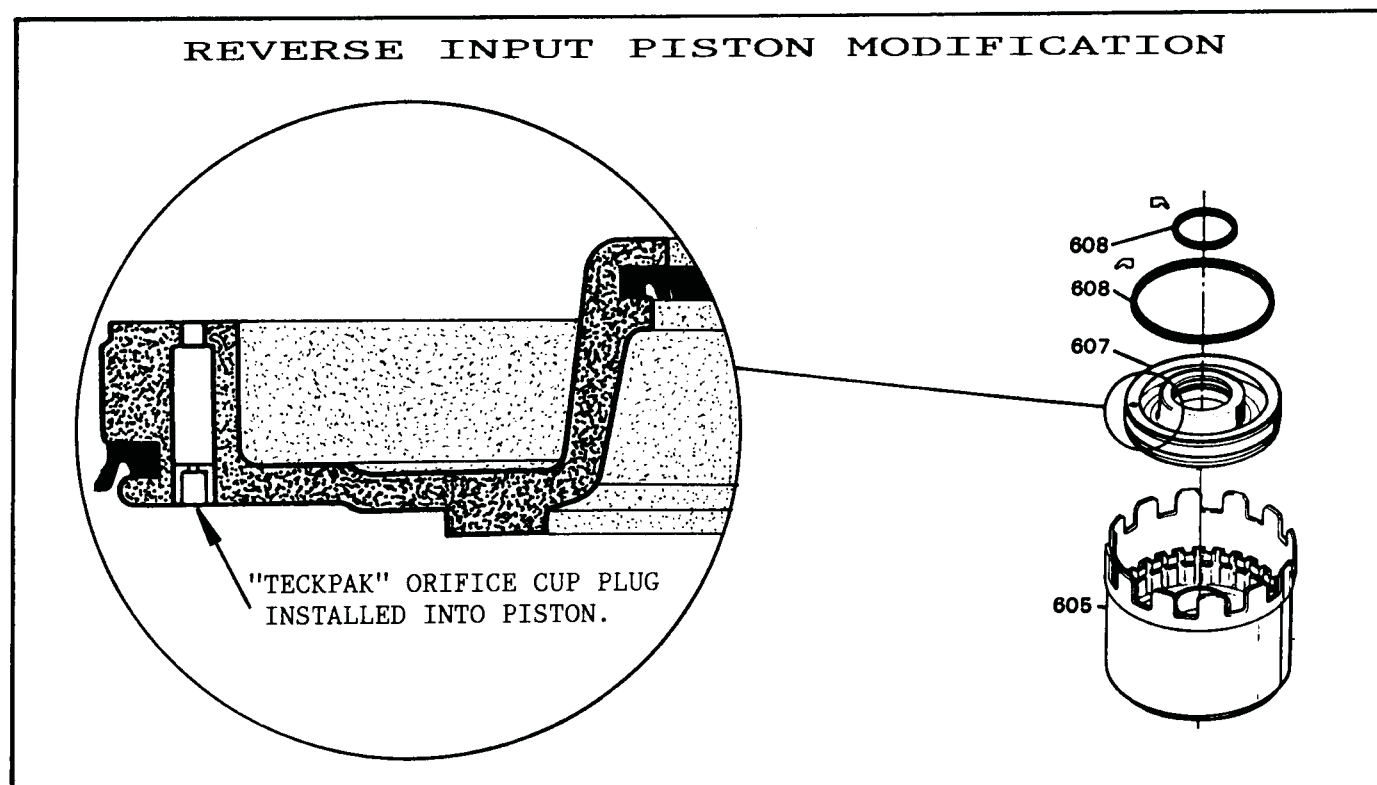

Figure 151
3. The "TECKPAK" orifice cup plug goes into the back side of the reverse input piston, as shown in Figure 151.
4. Modify the reverse input ALUMINUM piston, as shown in Figure 151, by installing the orifice cup plug.
5. Install the inner and outer lip seal onto the reverse input piston, and lubricate with Trans-Jel. Lips on seals must face the direction shown in Figure 151.